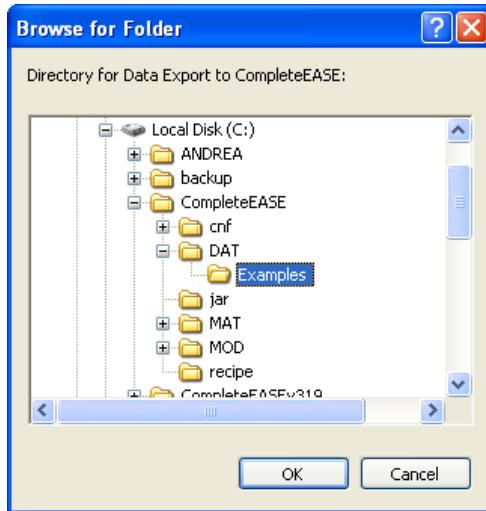

Figure 11-7. Browse for location to place the newly created CompleteEASE files.
3. Browse to select the directory for data exported to CompleteEASE, as shown in Figure 11-7.. Exported files will be saved in CompleteEASE format in the directory chosen.